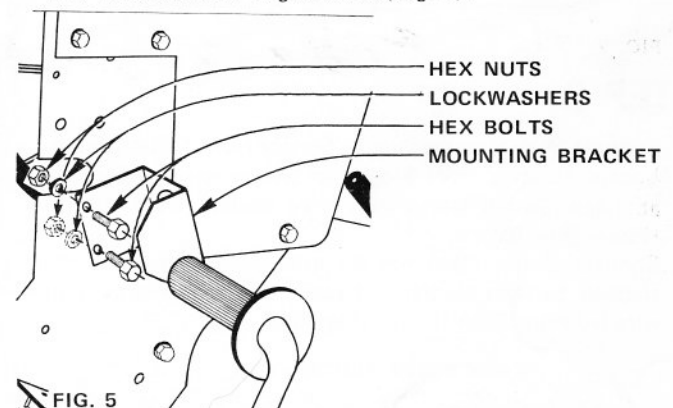

FIG. 5
4. Mount Bracket to frame using Hex Bolts, Lockwashers and Hex Nuts found in Bag of Parts (Fig. 5).